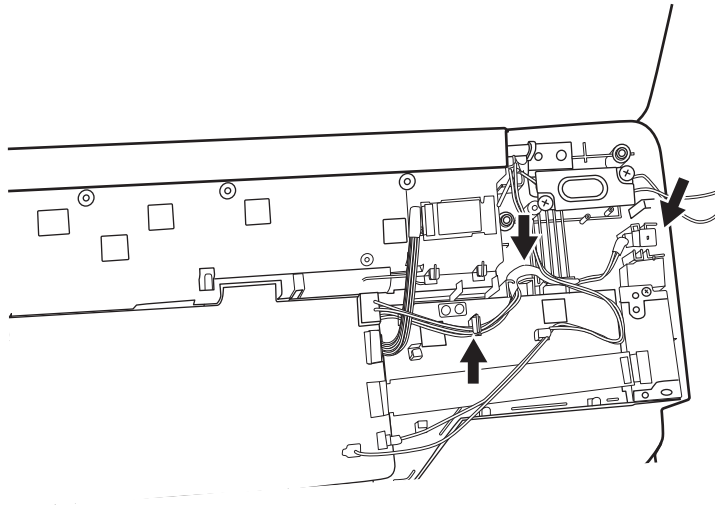

Figure 4.23 Installing the DC IN connector
4. Put the DC IN connector in the lower DC IN trough and route the cable from left to right under the ribs as shown in Figure 4.23.